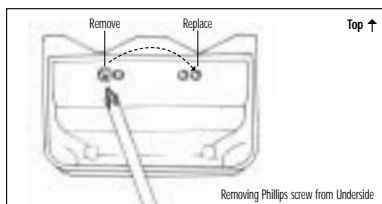

Fig. 5
2. Using phillips screwdriver, remove the screws (Fig. 5)